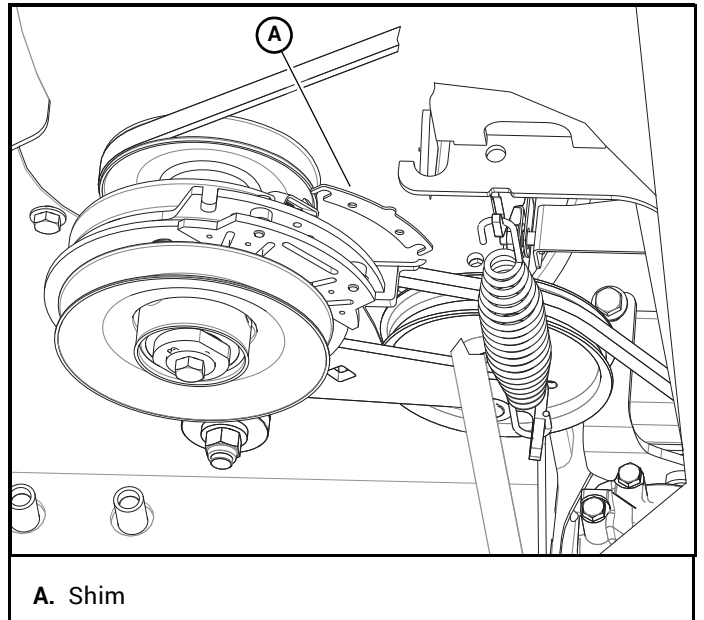

Figure 6-21
**The air gap is only adjustable on clutches that have a removable shim (see Figure 6-21).**
2. Using needle-nose pliers, or by hand, take hold of the tab and remove the shim (do not discard the shim until proper clutch function has been confirmed). Figure 6-21